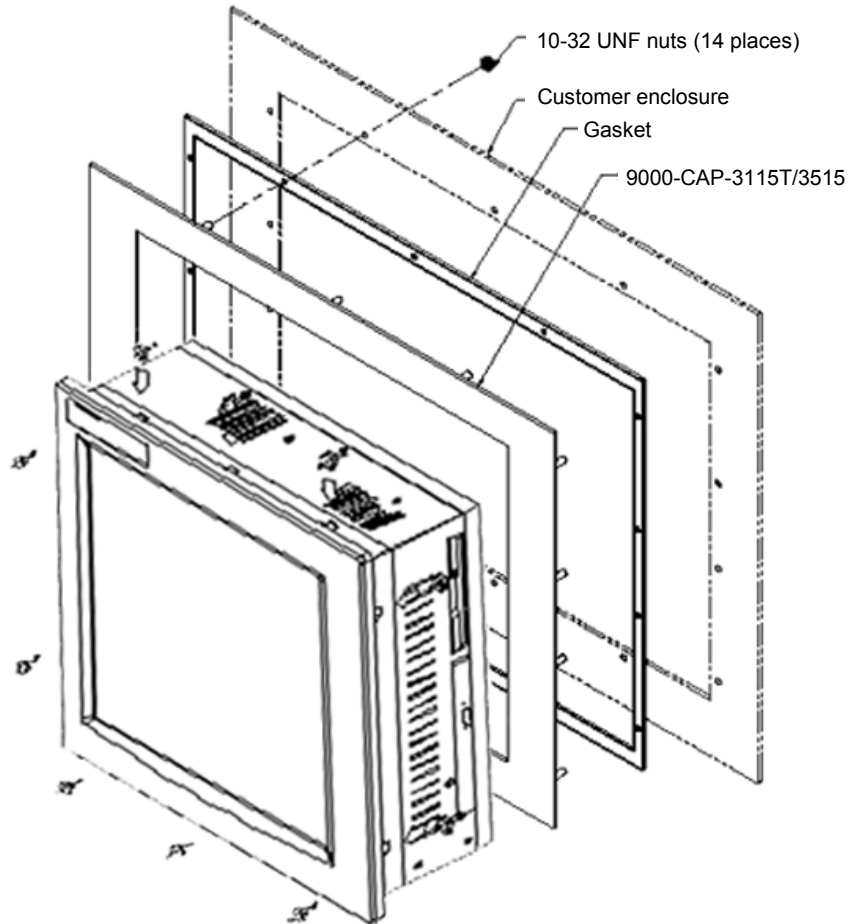

Figure 1. 9000-CAP-3115T/3515 Cutout Adapter Plate Installation
2. Mount the 3115T unit to the cutout adapter plate as shown in Figure 1 using 10 clamps. Torque the screws to 25 lbs-inch.
3. Mount the 9000-CAP-3115T/3515 and 3115T assembly to the customer enclosure using fourteen 10-32 UNF nuts and the gasket as shown in Figure 1. Torque the 10-32 UNF nuts to 25 lbs-inch (14 nuts total).